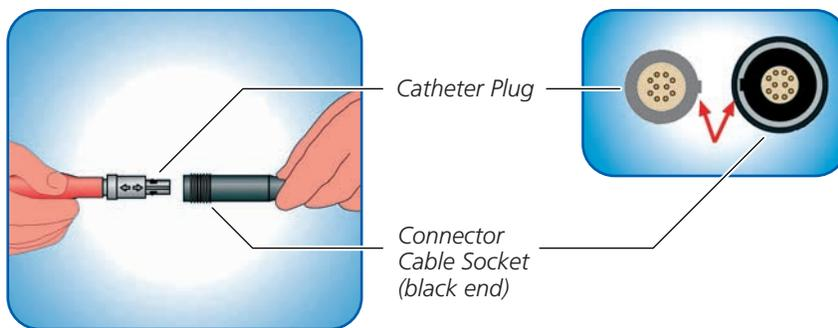

Figure 5.5 Inserting the Catheter Plug into the Connector Cable
5. Insert the catheter plug into the connector cable socket (black end). The tab and the slot must be aligned during connection (see Figure 5.5).